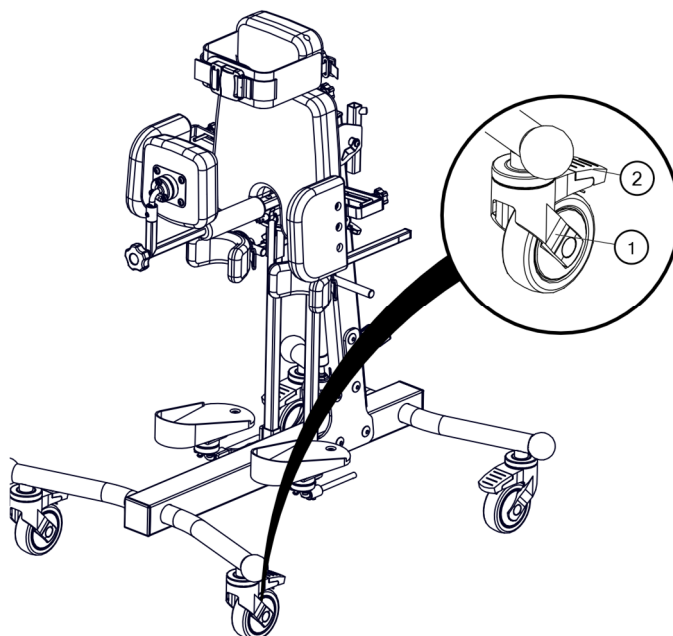

Fig. 4
In order to block the brake of a wheel (Fig. 4) (1), push the handle of the break (2) down. In order to unblock the break, pull the same handle upwards.